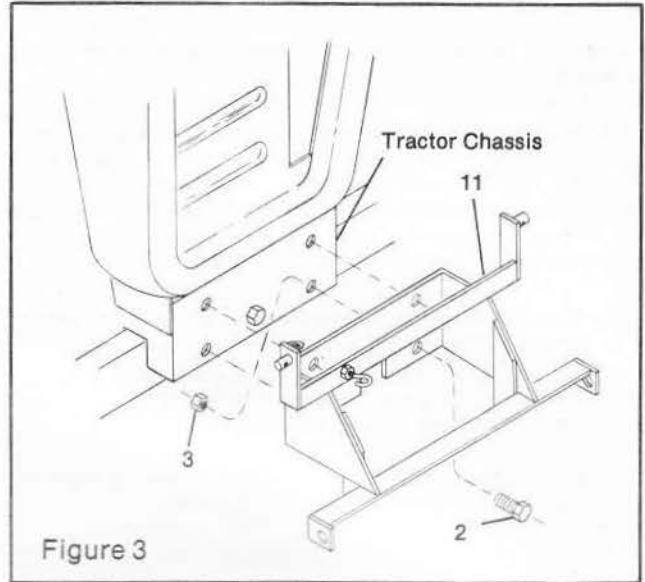

Figure 3
STEP 4 (Figure 3)
- B.) Aligning holes in Tractor chassis with those in the Snow Thrower Attachment mounting bracket (11), as shown in Figure 3).
- C.) Roll Tractor forward until mounting bracket (11) rests against Tractor chassis.
- D.) Raise or lower mounting bracket (11) to align holes with those in tractor chassis.
- E.) Assemble four hex bolts (2) thru mounting bracket and chassis, assemble four hex lock nuts (3) to bolts, tighten securely.